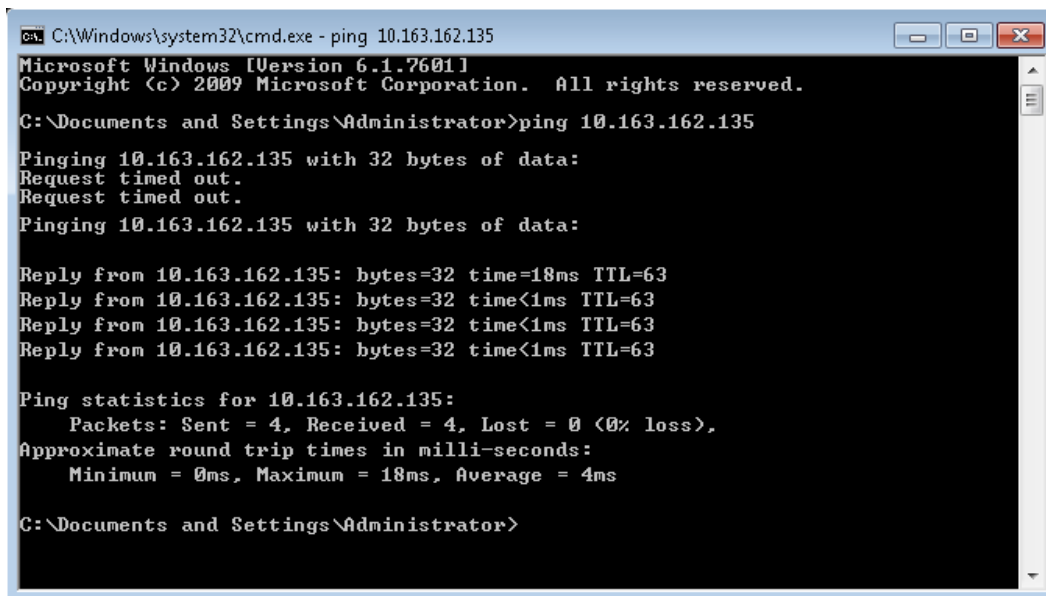

Figure 4-3 Communication test
2) Press the Enter key, the page shown in Figure 4-3 pops up. Type 'ping' and IP address in the command line (for instance, 'ping 10.163.162.135') and check whether the communication is successful.